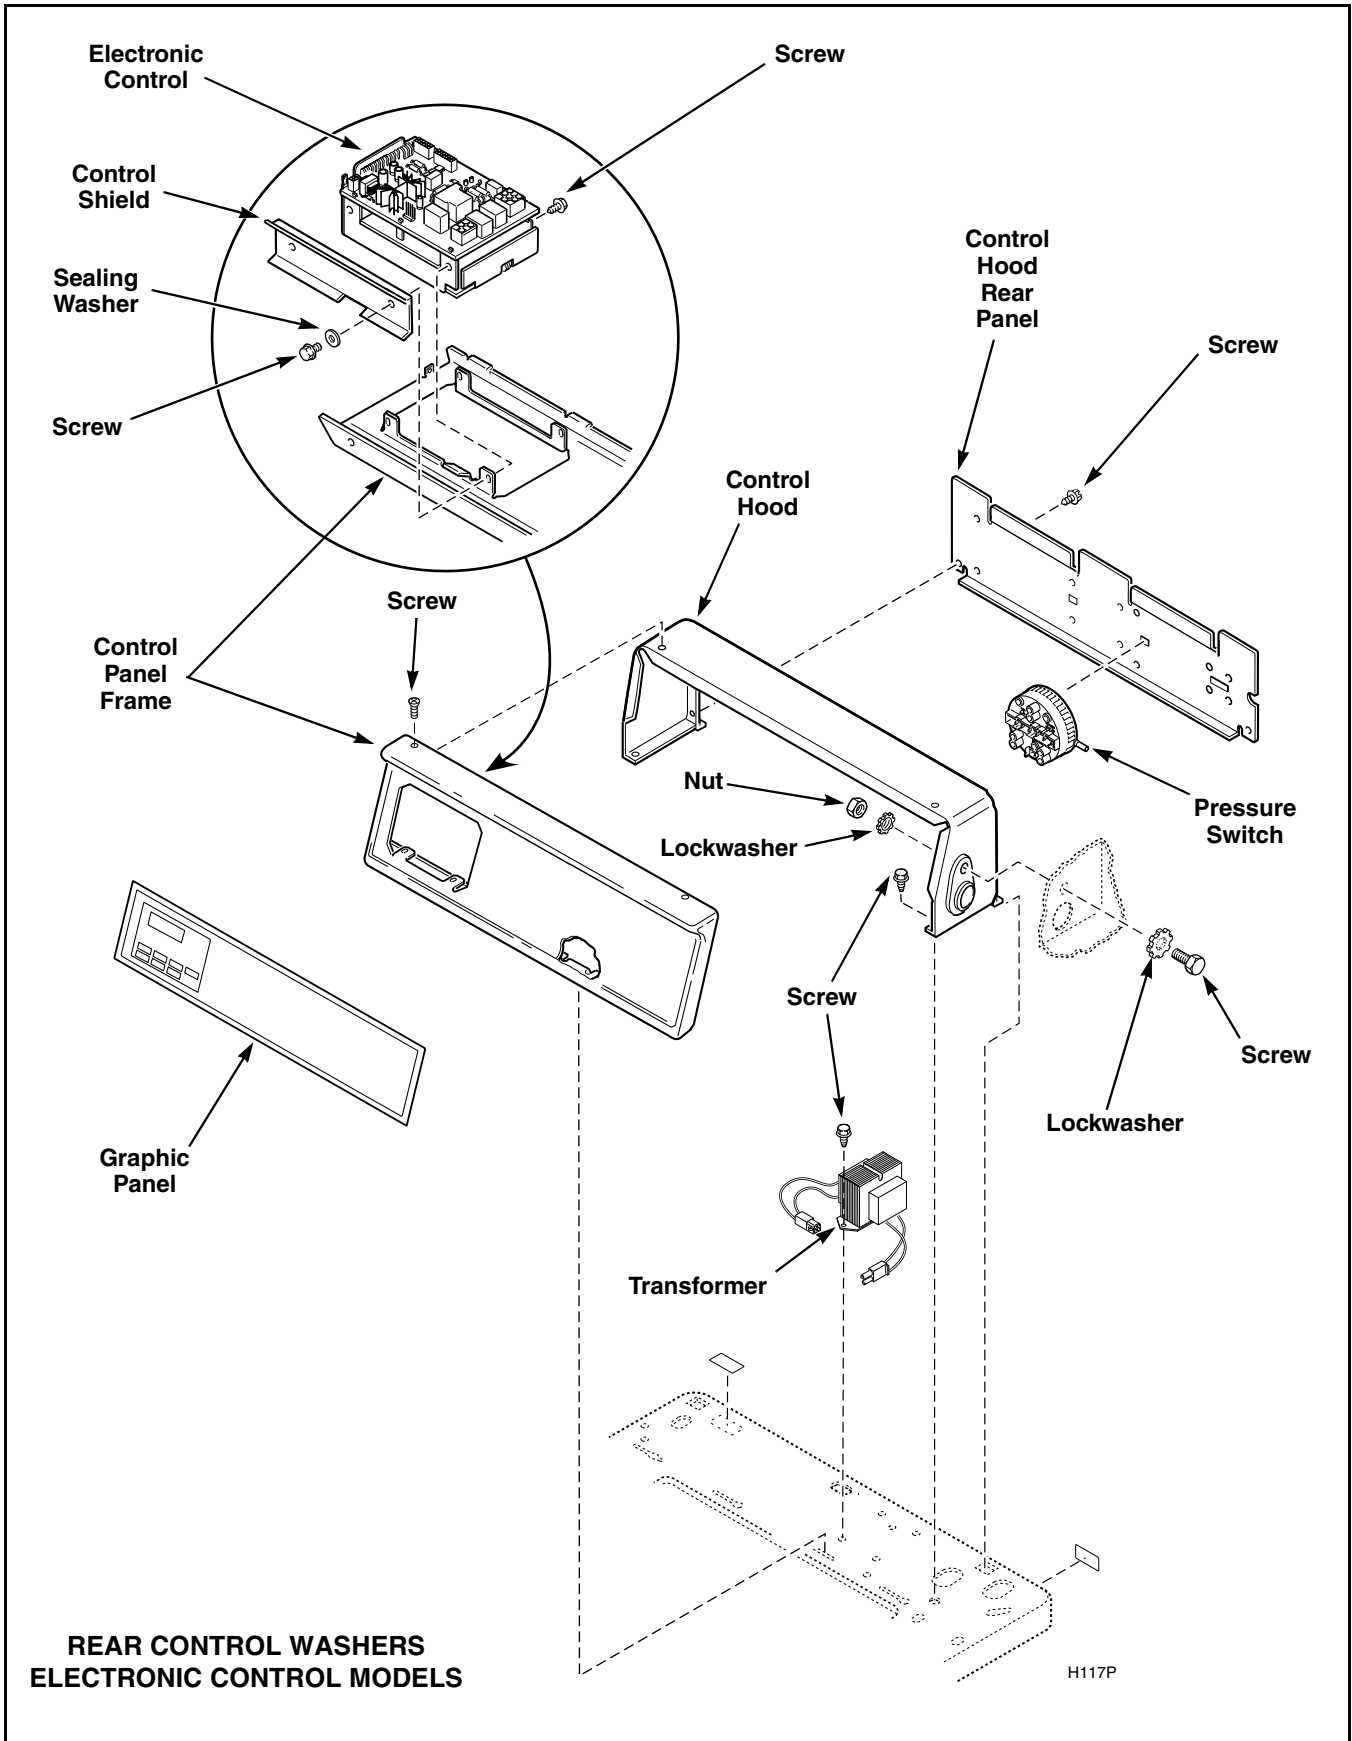

Figure 11
- c. Remove four screws holding electronic control assembly to backside of control panel. Refer to *Figure 11* or *12*.
- e. While holding new control by its metal edges, place control in opening of control panel and fasten control down with four screws. Refer to *Figure 11* or *12*.
NOTE: For proper control alignment, tighten the top two screws first then tighten the bottom screws. *Figure 11* or *12*.
- (1) Once panel overlay is fitted to the front of control panel frame, carefully peel protective backing from the left end of panel overlay and press into place.
- (2) Remove rest of protective backing from panel overlay and press overlay into place on control panel assembly.
- (3) While holding control by its metal edges, place control in opening of control panel and fasten control down with four screws. Refer to *Figure 11*.
NOTE: For proper control alignment, tighten the top two screws first then tighten the bottom screws. Refer to *Figure 11*.